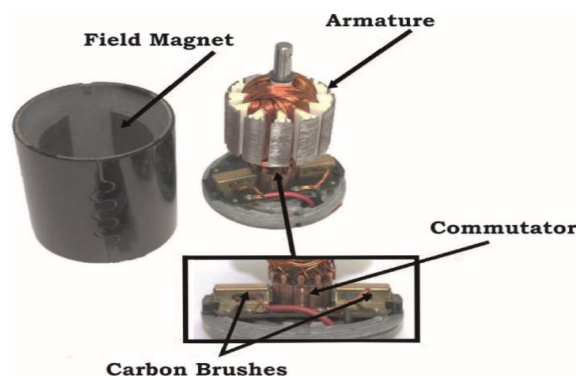

Fig. 3.42 Brushed DC motors
A. **Brushed DC Motor** – A brushed DC motor is a type of electric motor that uses a rotating armature or rotor along with a stationary set of magnets to convert electrical energy into mechanical energy. It is called a “brushed” motor because it uses brushes and a commutator to control the flow of current in the motor windings. Figure 3.42 illustrates the various parts of the brushed DC motor.